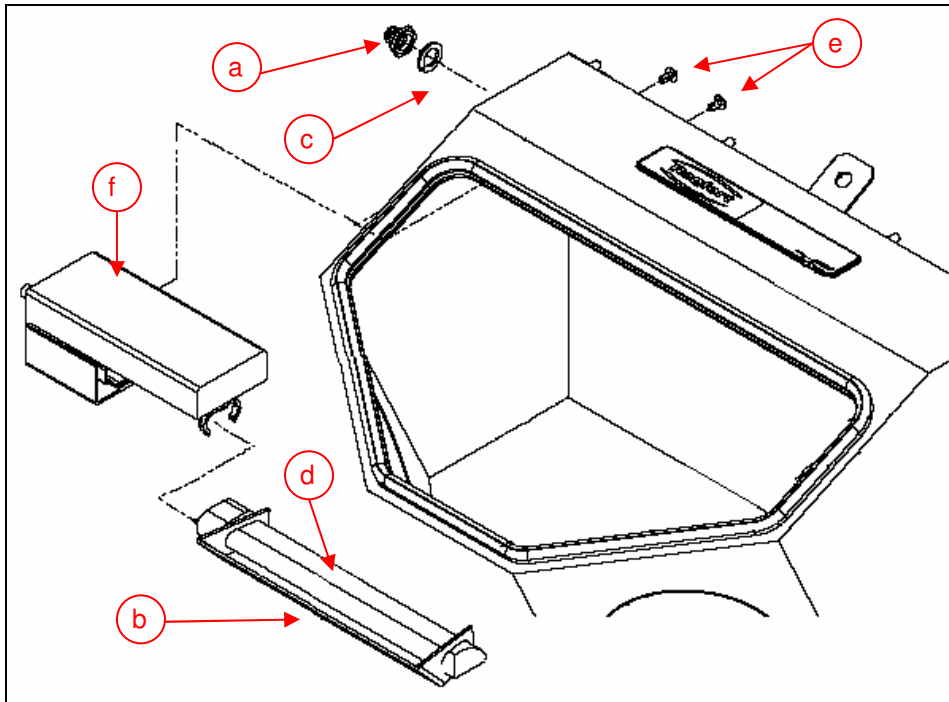

Fig. 6 - Ballast unit and fluorescent tube
- Remove the cap of the on/off switch (fig. 6 a) by unthreading it and remove the felt ring (fig. 6 c).
- Pull the fluorescent tube (fig. 6 d) carefully out of his socket.
- Remove the screws (fig.6 e) and take the ballast unit (fig. 6 f) out of the body
- Install the new ballast unit in the body and mount it with the 2 screws (fig. 6 e).
- Attach the felt ring (fig 6 c) and the cap (fig. 6 a) to the on/off switch.
- Change the lamp cover (fig 6 b) from old to new tube.